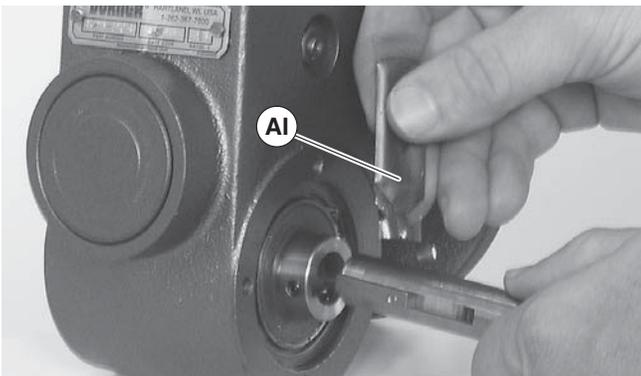

Figure 18
- Apply grease (Figure 18, item AI) to shaft.